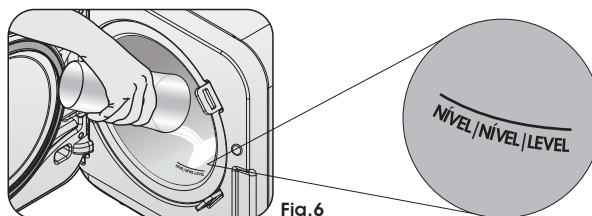

Fig.6
- c► Use the cup (Fig. 6) to pour the correct amount of **distilled water** directly into the chamber (pressure vessel) **before** each cycle. **The water must reach the "water level" mark** (Fig. 6).